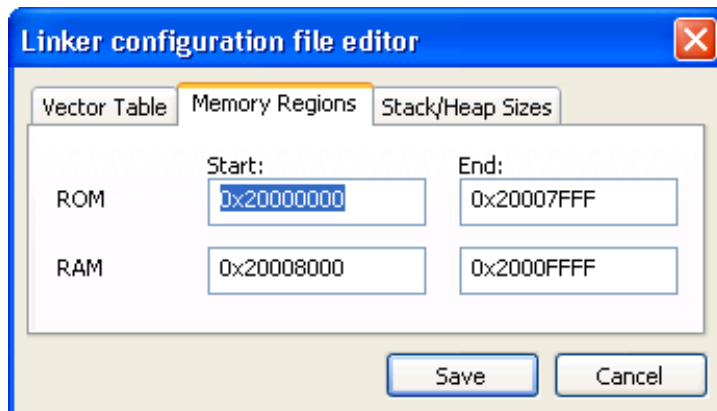

Figure 32 · The Linker Configuration File Editor – Memory Regions Tab
6. Click **Edit** to display the **Linker configuration file editor**, as shown in Figure 32 . This window displays the **Vector Table**, **Memory Regions**, and **Stack/Heap Sizes** tabs.